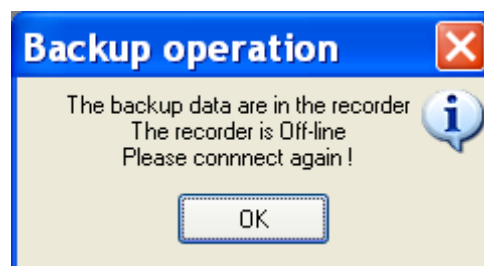

Figure A.8 Backup Operation
6. The SeaStar software downloads the RBD file into the recorder and the window in figure A.8 appears. Click **OK**.